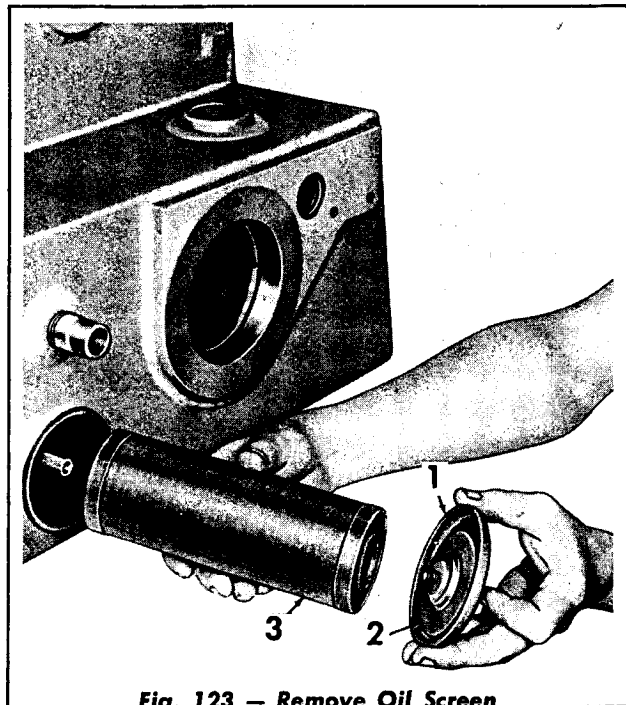

Fig. 123 — Remove Oil Screen
6. Remove the screen cover and the gasket (Fig. 123). Remove the retainer and the oil screen assembly.